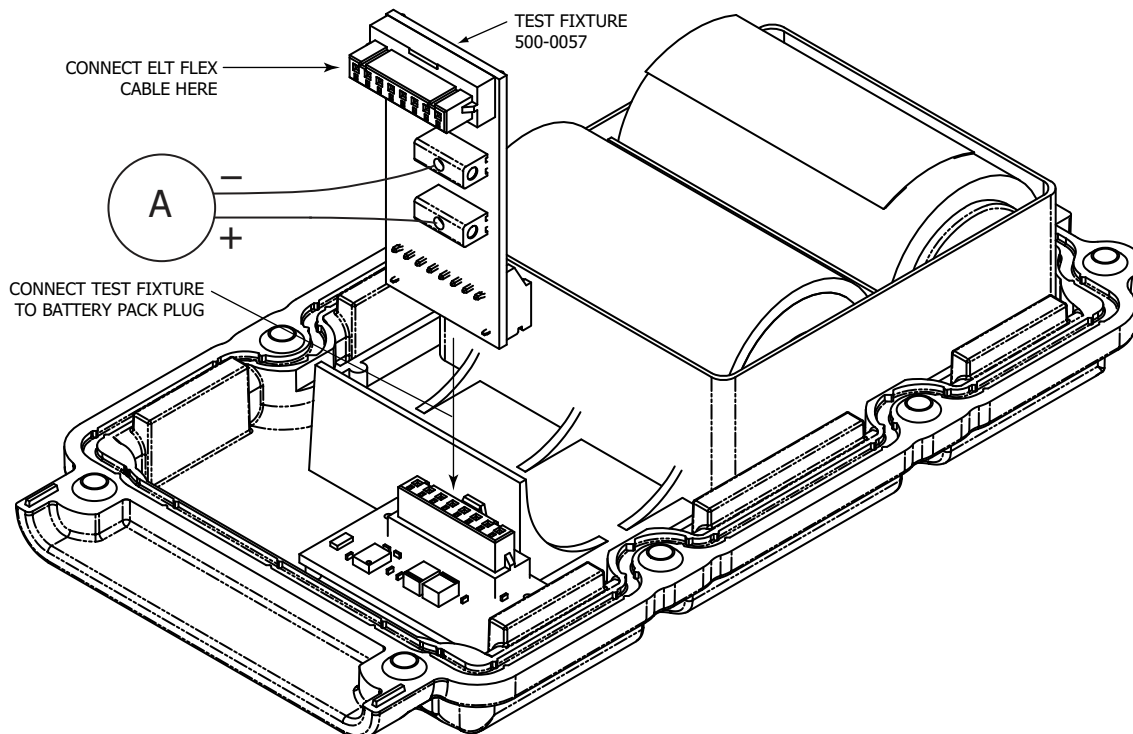

Figure 9 Current Draw Test Setup
- (2) Install test fixture 500-0057 in the power circuit. See Figure 9 Current Draw Test Setup.